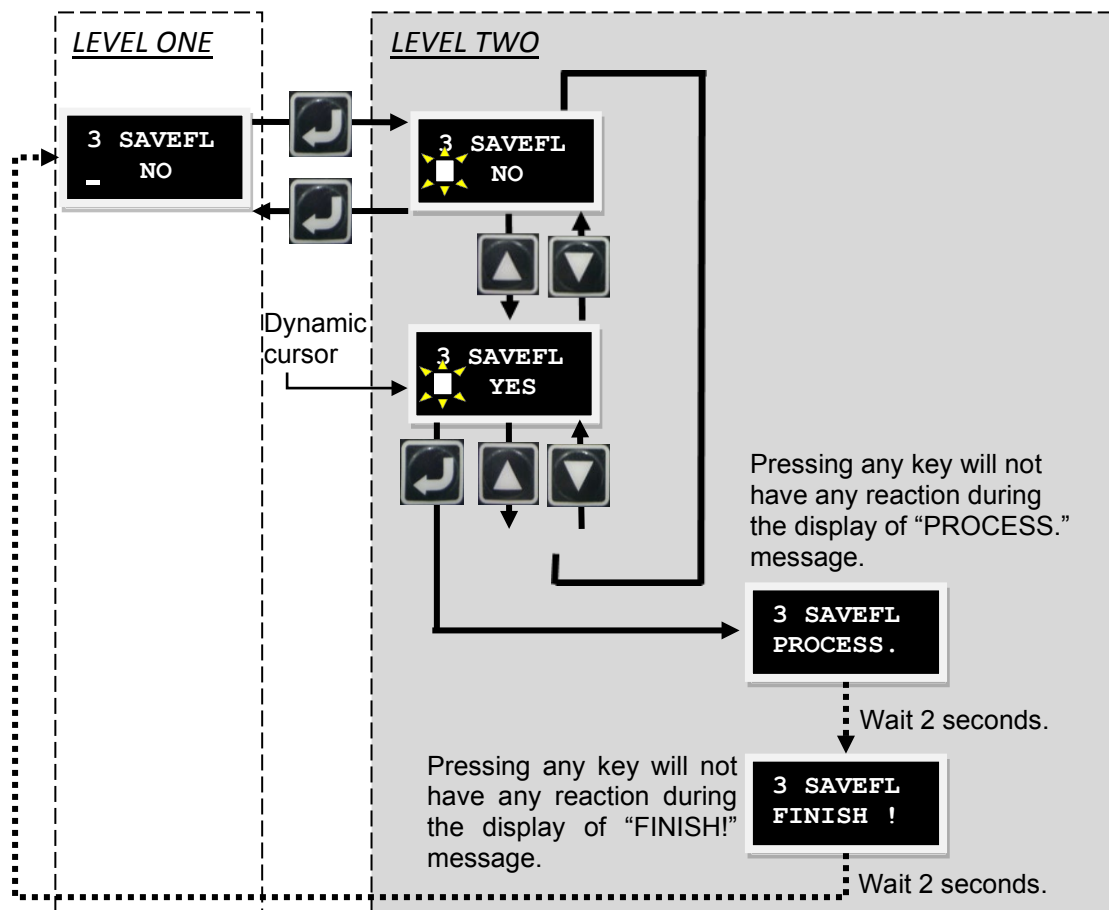

Figure 7.5.1.1 "Save to Flash" operation
- Step 3: When the servo is disabled, the "PROCESS." message will be displayed on the screen after pressing the Enter key. This indicates that parameters are being saved to Flash. The "FINISH!" message will be displayed after the "Save" procedure is completed. The operation flow chart is given in figure 7.5.1.1. When the servo is enabled, pressing the Enter key will also do the same steps described in figure 7.5.1.1, but the motor will be disabled.